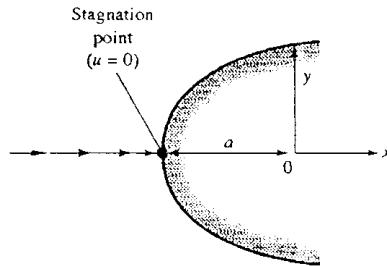

Fig. P4.31
**4.31** According to potential theory (Chap. 8) for the flow approaching a rounded two-dimensional body, as in Fig. P4.31, the velocity approaching the stagnation point is given by  $u = U(1 - a^2/x^2)$ , where  $a$  is the nose radius and  $U$  is the velocity far upstream. Compute the value and position of the maximum viscous normal stress along this streamline. Is this also the position of maximum fluid deceleration? Evaluate the maximum viscous normal stress if the fluid is SAE 30 oil at 20°C, with  $U = 2 \text{ m/s}$  and  $a = 6 \text{ cm}$ .